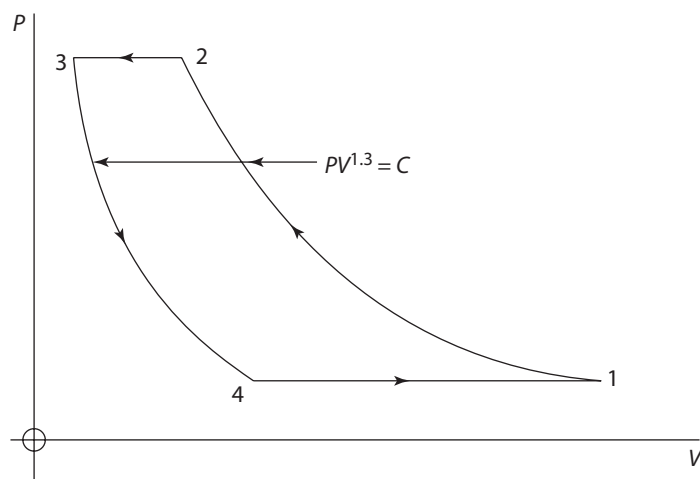

Fig. 10.5 Diagram for Example 10.1
**Example 10.1** A single-stage, single-acting, reciprocating air compressor has a bore of  $200\text{ mm}$  and a stroke of  $300\text{ mm}$ . It runs at a speed of  $500\text{ rev/min}$ . The clearance volume is  $5\text{ per cent}$  of the swept volume and the polytropic index is  $1.3$  throughout. Intake pressure and temperature are  $97\text{ kN/m}^2$  and  $20^\circ\text{C}$ , respectively, and the compression pressure is  $550\text{ kN/m}^2$ . With the aid of Fig. 10.5, determine